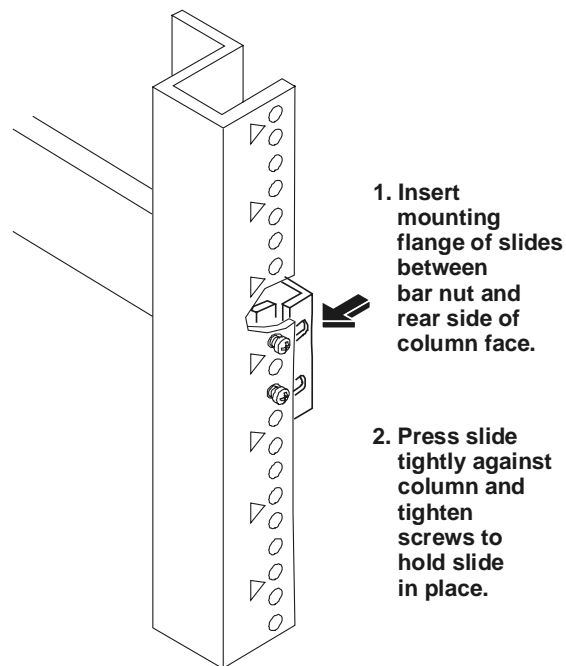

Figure 13-6. Securing the Slide to the Front Column
17. Insert the slide fixed mounting flange between the column and bar nuts. Press the slide firmly against the front column (see Figure 13-6).